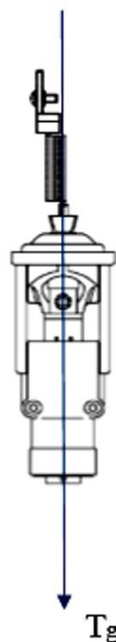

Fig. 4
- c) The weight line should pass through the centerline of the knee in the Coronal or M/L plane (Fig. 4). Excessive outset or inset will put undue stress on the knee joint.